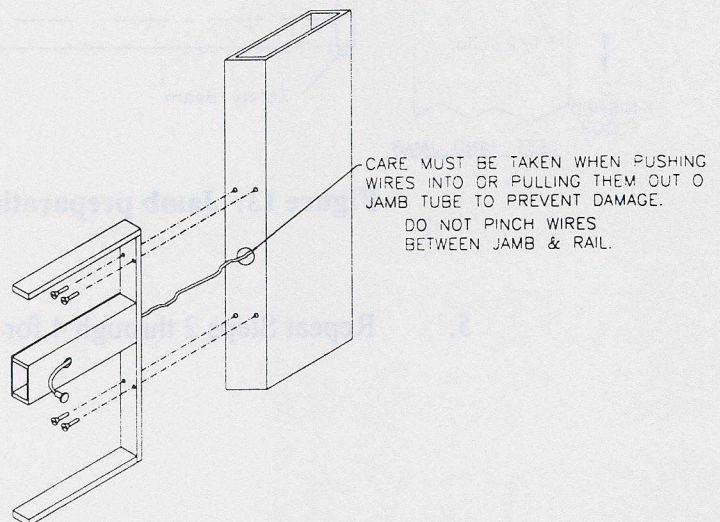

Figure 17: Mounting the safety rails.
2. The mini safety rails come with 2 pre-drilled beam holes. You will only use one of them depending on the size of your door. You will want to mount the pencil beam just beyond the leading edge of the door, but as close to the door as possible. Feed the cable from one of the pencil eyes through the hole in the rail and out the access hole in the back (See Figure 17). Push the eye into the hole so that it snaps into place.